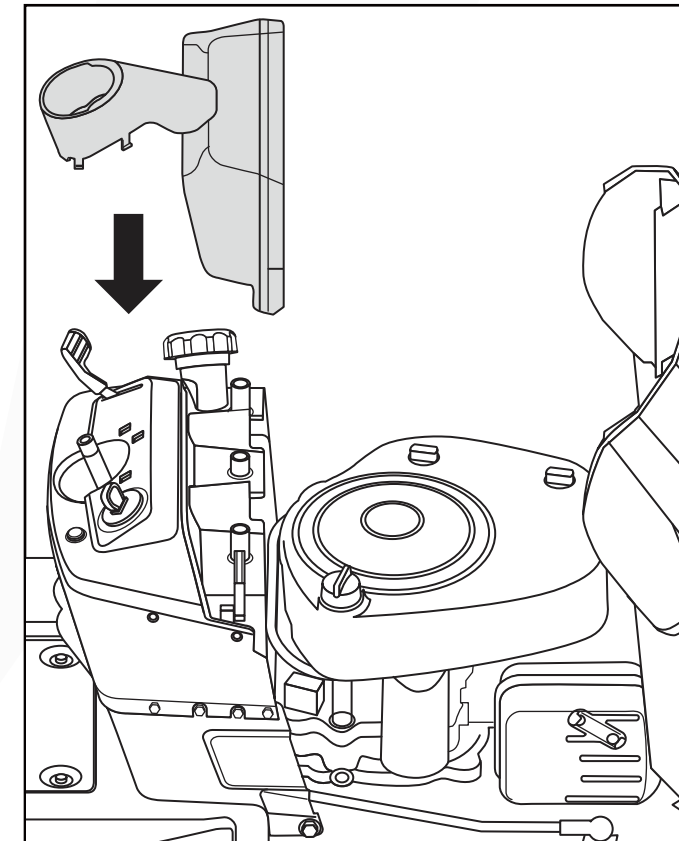

Fig. 2
1. Open the engine shroud and install the dashboard cover into place. (Fig. 2)